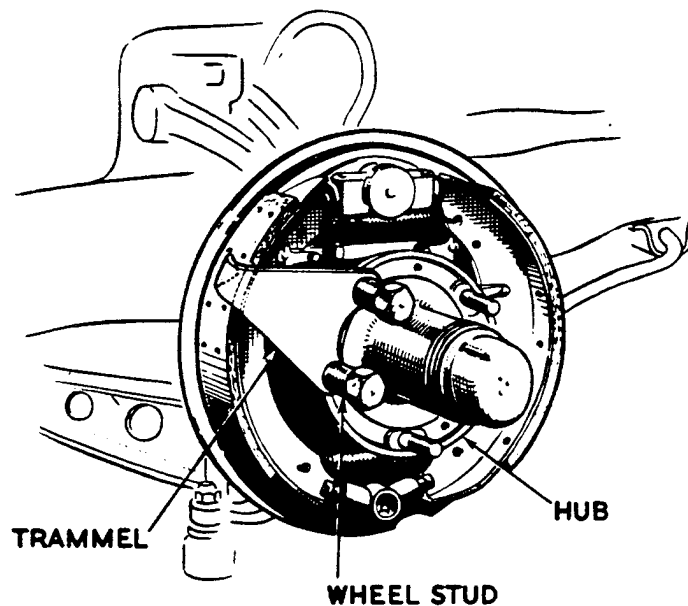

FIG. 3.
- (a) From a piece of light gauge steel, make up a trammel as shown in (FIG.3) to fit over two of the wheel studs on the hub, and bend the pointer to touch lightly on the face of the brake linings.